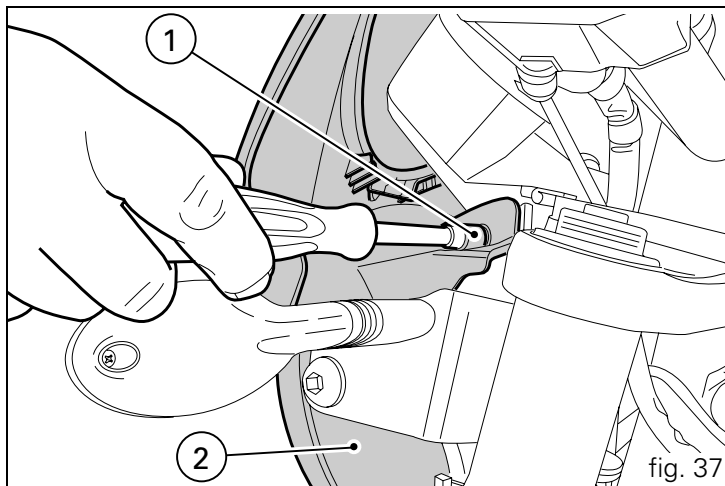

fig. 37
**E** Removing the fairing panels (fig. 37)